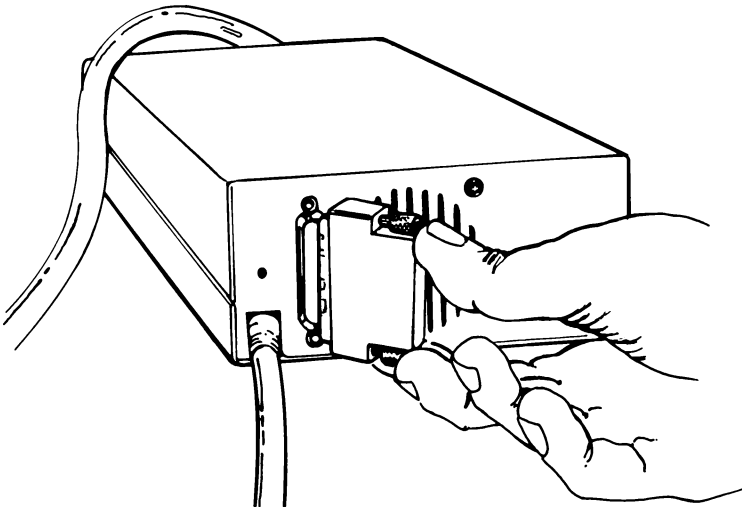

Figure 2
- 3) Remove the SCSI Terminator Block from the box and connect it to the open SCSI port on the back of the tape drive (Figure 2).